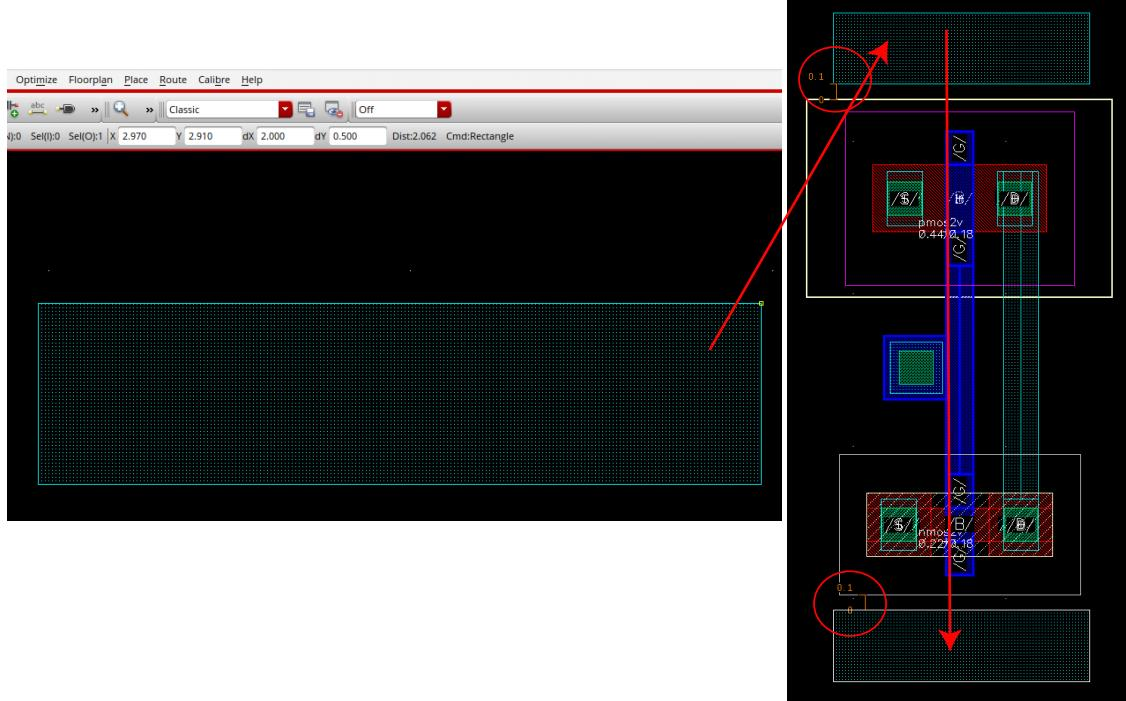

Figure 9: Metal 1 rectangle creation and placement for the power supply lines.
- Select METAL1-drawing as a layer. Press **r** and draw a rectangle of random dimensions, as depicted in Fig. 9. Then select the metal 1 rectangle, click on **q** and change its width and height to $1.68\mu m$ and $0.47\mu m$ respectively.
- Place the metal 1 rectangle on top of the *pmos* transistor, with a distance of $0.1\mu m$ from the *NWELL* layer as shown Fig. 9.